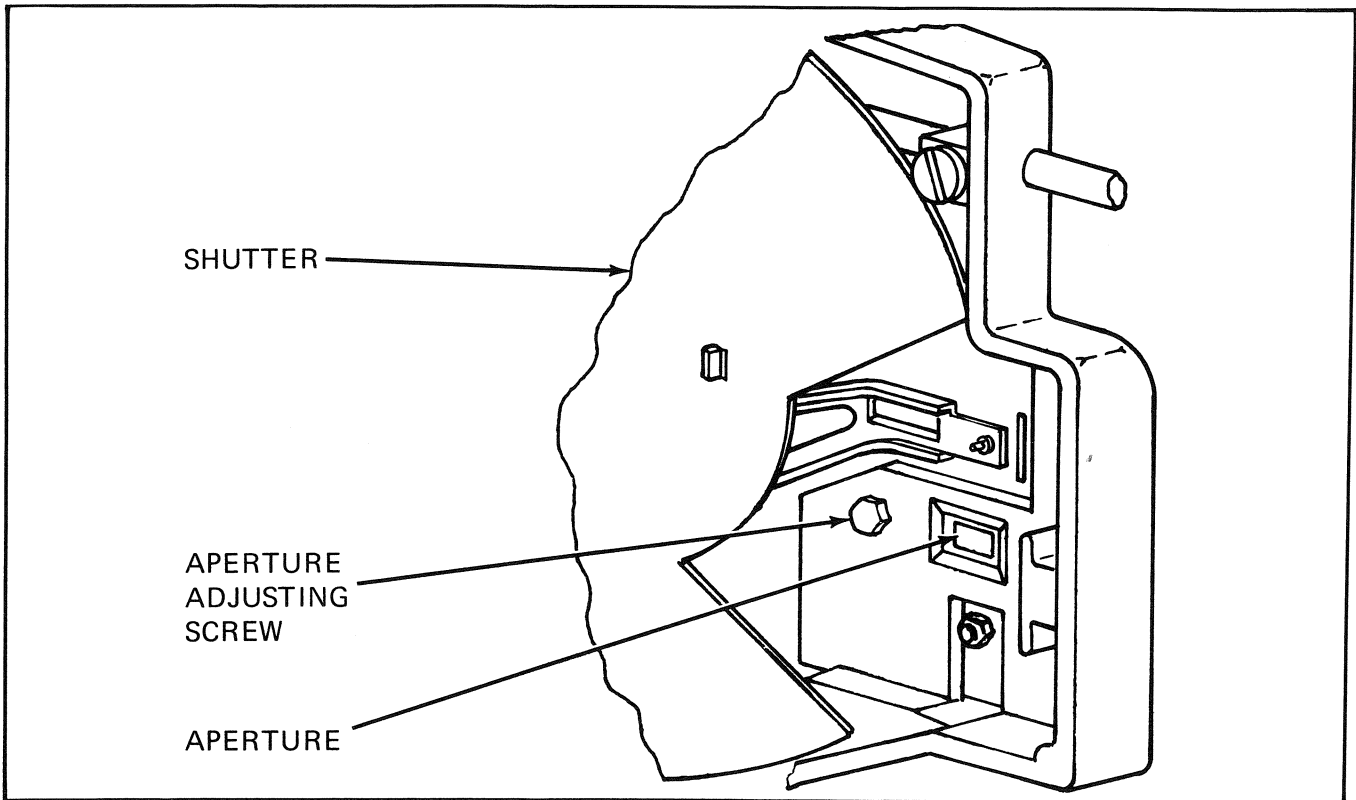

Fig. 4-12
4. Locate the aperture adjusting screw 505-008. (See figure 4-12.)